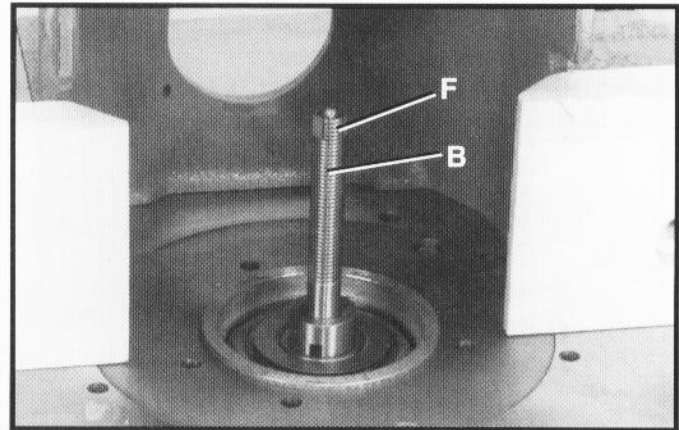
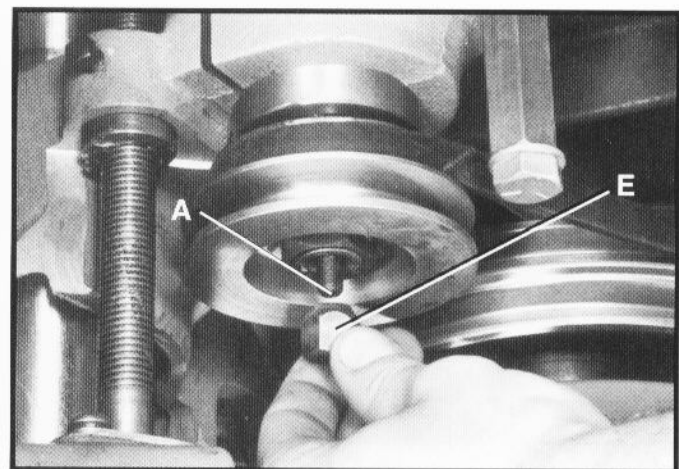

Fig. 14
Fig. 15
3. Fig. 14, illustrates the spindle (B), inserted into the spindle cartridge.
4. Thread nut (E) Fig. 15, onto bottom end of tie rod (A).
5. Place wrench on flats (F) Fig. 14, on top of spindle and tighten nut (E) Fig. 15, on bottom of tie rod to fasten spindle to spindle cartridge.